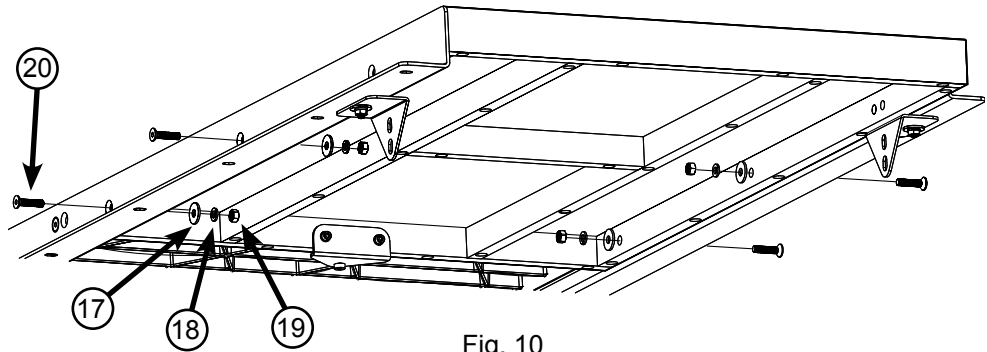

Fig. 10
10. The extension table mounts to the rails with bolts that pass through holes in the rails and extension table (see Fig. 10). If you have an extension table for a 36" fence system, take two M8 x 35 countersunk socket head bolts and insert one through the hole in the front rail closest to the saw and the other through the hole in the rear rail closest to the saw. If you have an extension table for a 52" fence system, take four M8 x 35 countersunk socket head bolts and insert one bolt into each of the two holes in the front rail closest to the saw, and one bolt into each of the two holes in the rear rail closest to the saw.